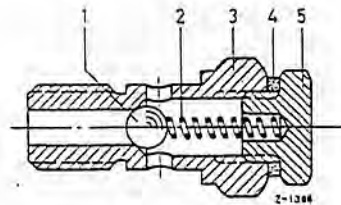

Fig. 00-14/6
5. If the value is in excess of 2.5 atm. and the opening pressure of the overflow valve is below 2.2 atm. at 3000 rpm (see Para. 3) the overflow valve must be removed, cleaned and checked for leaks. If it is in order, increase the initial tension of the compression spring by adding shims between compression spring (2) and screw plug (5) (see Fig. 00-14/6). Repeat procedure of Para. 4.